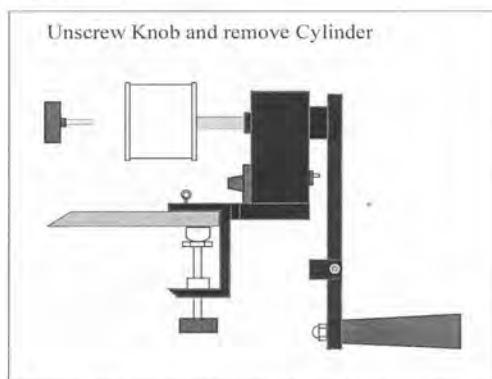
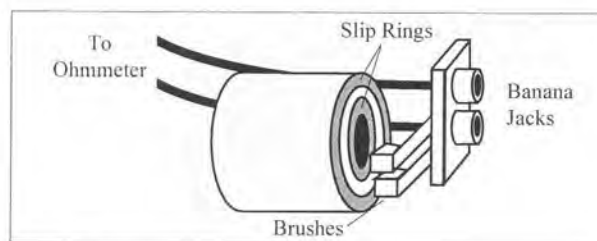

Figure 5.3
Figure 5.4
1. You should have the crank apparatus set up on the table top as shown in Fig. 5.3. Measure the mass of the aluminum cylinder, and replace it by screwing in the knob (see Fig 5.3). There are two brushes on the crank apparatus—make sure that they in contact with the side of the aluminum cylinder with the brass slip rings exposed, as shown in Fig. 5.4. The brushes establish an electrical contact with the thermistor inside the cylinder, which is used to monitor the cylinder's temperature.